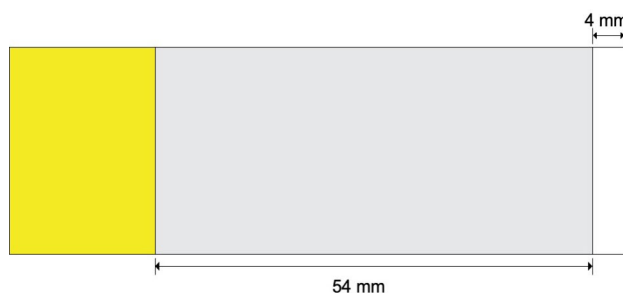

Figure 2.6. Approximate accessible imaging area (in gray) for Phenolmager Slide Carrier. The smaller square on the left (in yellow) indicates the slide label.
- The area of the slide that is accessible for scanning is shown for the Phenolmager Slide Carrier in Figure 2.6 (in gray) and for the PhenoCycler Flow Cell Slide Carrier in Figure 2.7 (in gray).